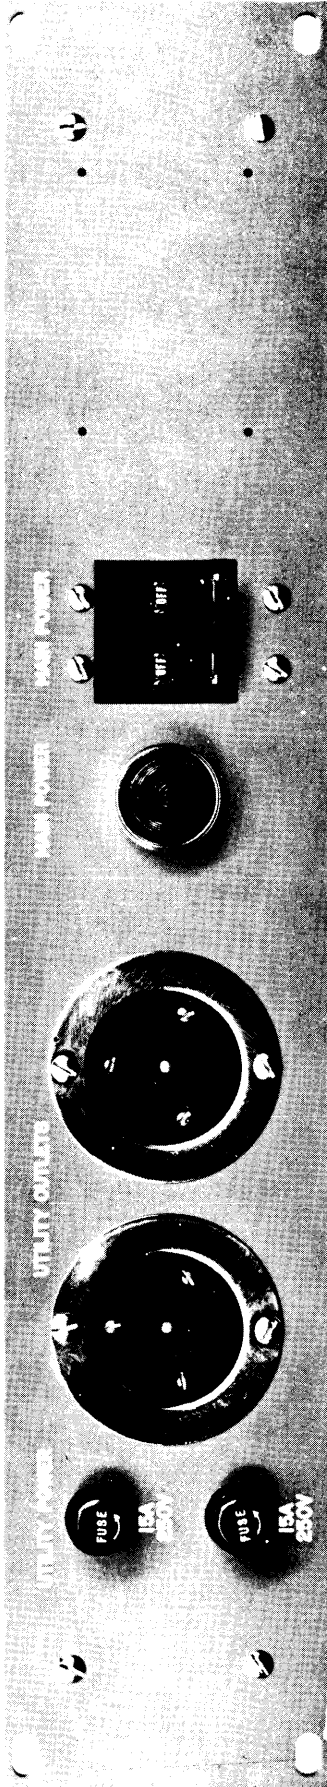
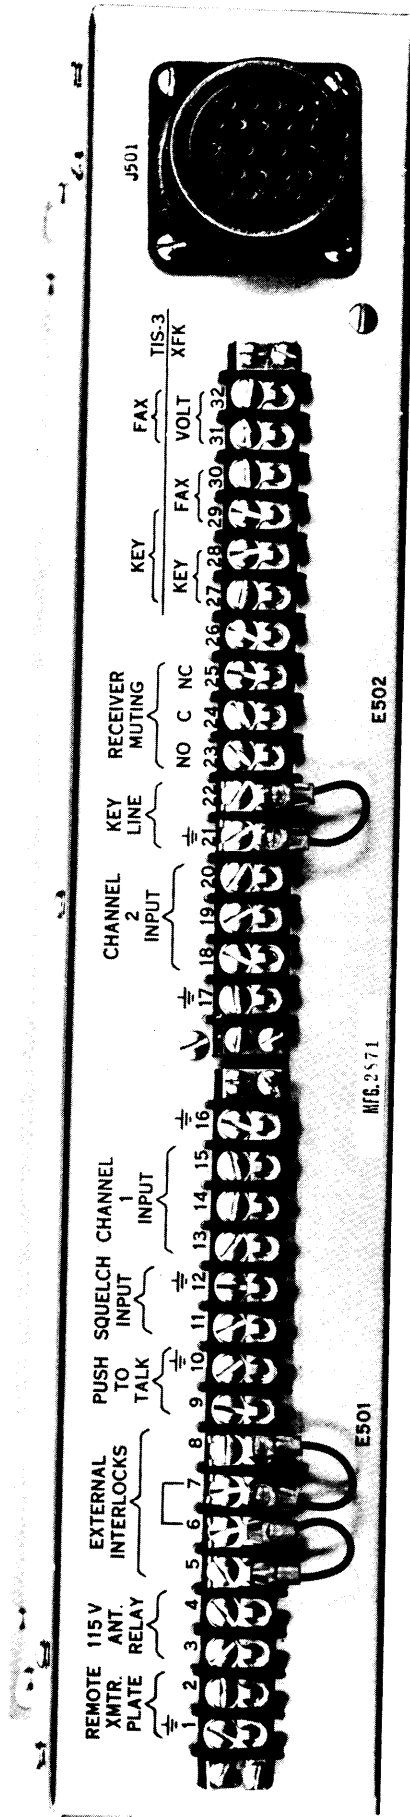

Figure 1. Auxiliary Power Panel, Model APP-4
Figure 2. Rear Panel, APP-4
- b- Figure 2, change designation "SQUELCH INPUT" to "MMX-FSK".
Auxiliary Power Panel, Model APP-4 (figure 1), is a line-voltage distributing device that provides connection for related equipment used in a transmitting system. Two individually-fused UTILITY OUTLETS (located on the front panel) provide 115- or 230-volts a-c, depending upon input power source, for external test equipment. A MAIN POWER indicating lamp and two MAIN POWER circuit breakers are also located on the front panel. Two terminal blocks (E501 and E502) and a jack (J501), located on the rear panel (refer to figure 2), provide wiring connections as required by the particular installation.